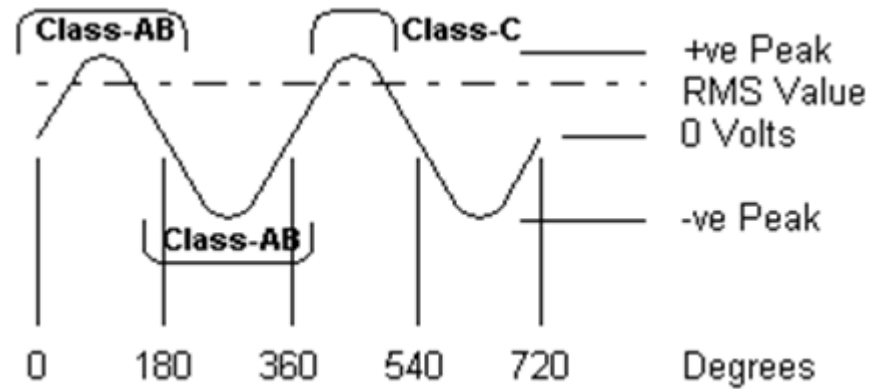

Figure 1 - The Sinewave Cycle
- Class-C:** Output device(s) conduct for less than 180 degrees (100 to 150 degrees typical) - Radio Frequencies only - cannot be used for audio! This is the sound heard when one of the output devices goes open circuit in an audio amp! See Figure 1, showing the time the output device conducts